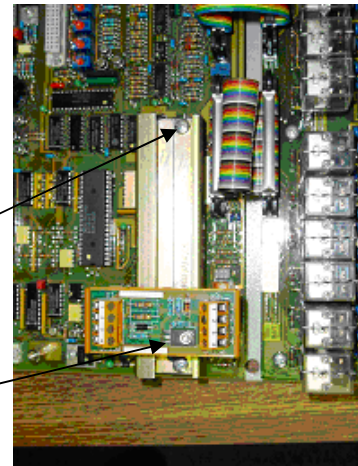

Fig. 11
4. Attach mounting rail 031-300-050-721 on top of the standoffs using the screws and lock washers removed from the main board. (Fig. 11)
5. Install (snap) serial interface board 024-350-300-147 on the mounting rail. (Fig. 11)